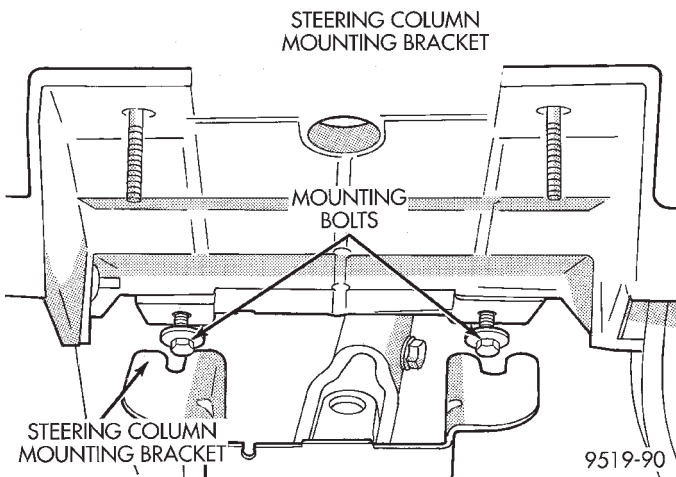

Fig. 31 Installation Of Steering Column On Bracket
(3) Install steering column assembly back on mounting bracket, by first sliding lower steering column bracket onto bolts in mounting bracket (Fig. 31). **Do not tighten mounting bolts at this time.**